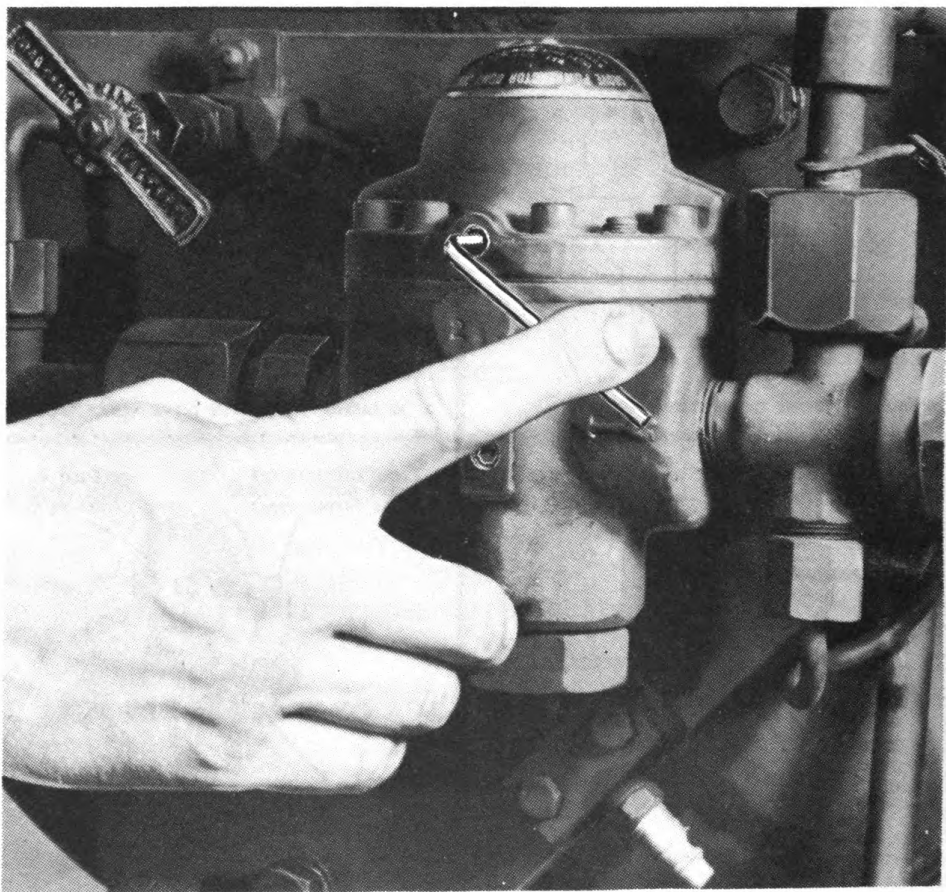

Fig. 58. Closing dome needle valve using finger pressure.
- Close dome needle valve (fig. 58).
- (8) Before proceeding with adjustment of pressure regulator, test regulator as follows:
- (9) If low pressure gage has shown a rise in pressure during testing [(8) above], proceed as follows:
- (10) If low pressure gage does not show a rise in pressure, perform the procedures in b below.